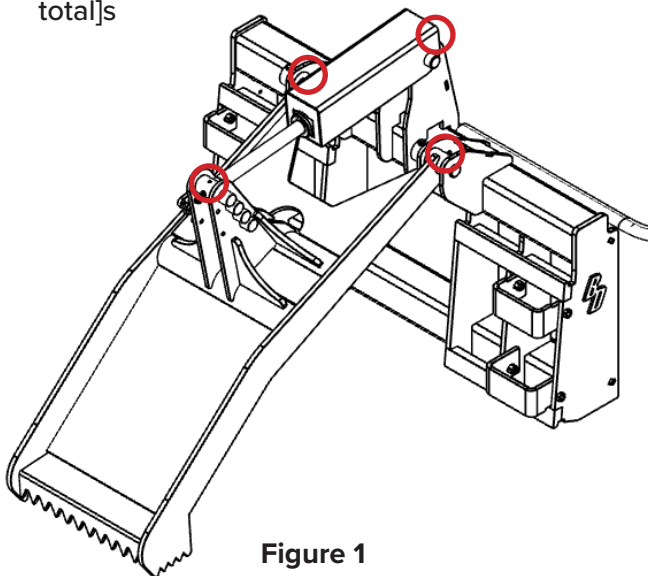

Figure 1
The Severe Duty Mat Grapple has four (4) grease points [Figure 1].
- One on each end of the cylinder [two (2) total]
- One on each pivot point of the clamp [two (2) total]s